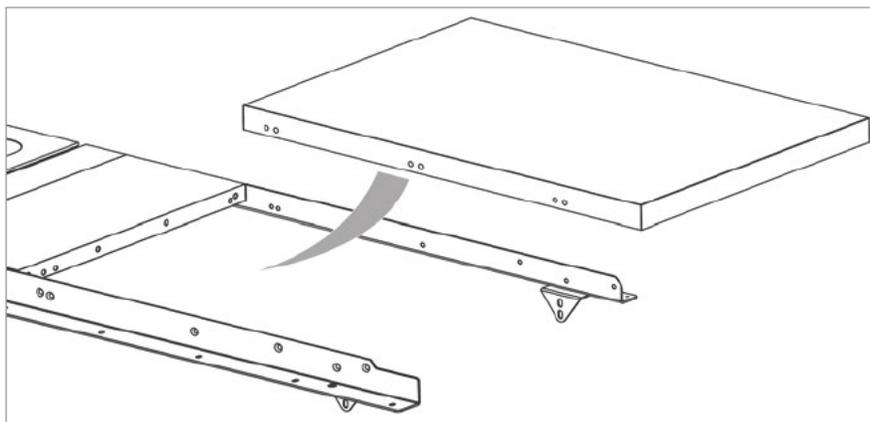

Fig. 19
9. Place the extension table between the rails and slide it towards the extension wing (See Fig. 19). Be careful when positioning the extension table because it is not yet secured to the rails and could fall. You will need to tilt the extension table slightly for the adjustment bracket to fit under the extension wing. The adjustment bracket includes a screw that extends upward and the underside of the extension wing includes a hole to receive the screw. Fit the screw into the hole, and then turn the screw until the extension table is roughly flush with the extension wing. The opposite end of the extension table will rest upon the leg support brackets but will not be level because the leg support brackets are at different elevations and are not intended to support the extension table once it is fully installed.